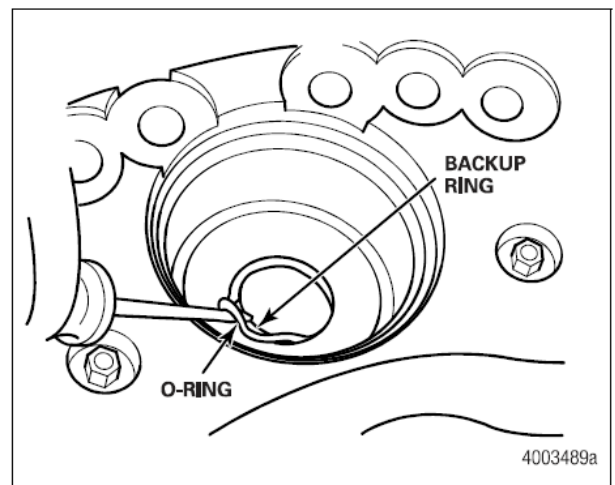

Figure 3.10
13. Use a suitable tool to remove the 2.5-inch (63.5 mm) diameter parking piston O-ring and backup ring from the caliper housing. Discard the O-ring and backup ring. Figure 3.10.